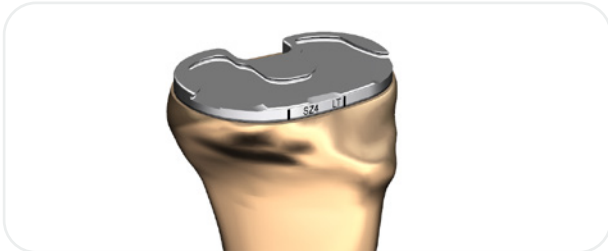

Figure 54
5. After impaction, ensure that the tibia implant is completely contacting the surface of the resected tibia and no gaps are present between the implant and bone (**Figure 54**). Fixation, support and stability may be compromised if gaps are present between the implant and bone.